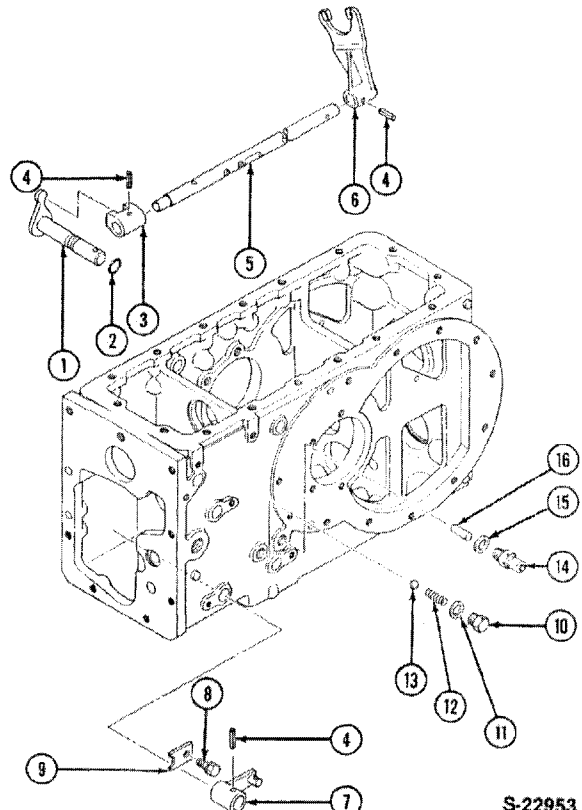

Figure 10
2. Drive the roll pin (4) out of the change lever (7) and remove the lever, Figure 10.
3. Remove the retaining plate (9) and remove the shift arm (1), Figure 10.
4. Remove PTO safety switch (14), washer (15) and pin (16).
5. Remove the bolt (10) and remove the detent spring and ball.
Reference — Figure 10